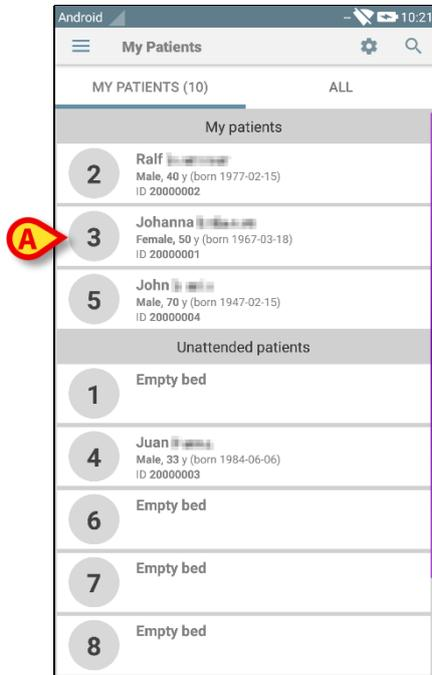
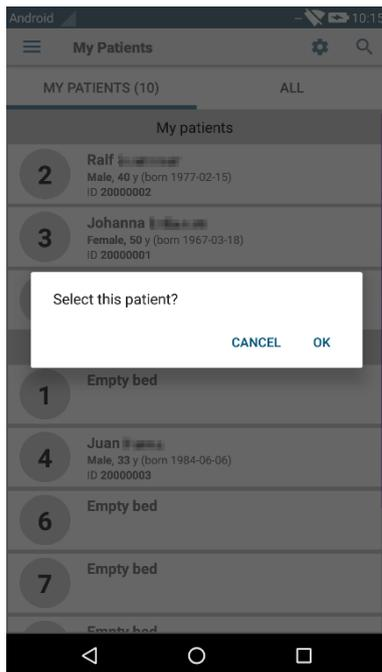

Fig 165
Fig 166
- Touch the tile indicated in Fig 165 **A**. User confirmation is required (Fig 166).